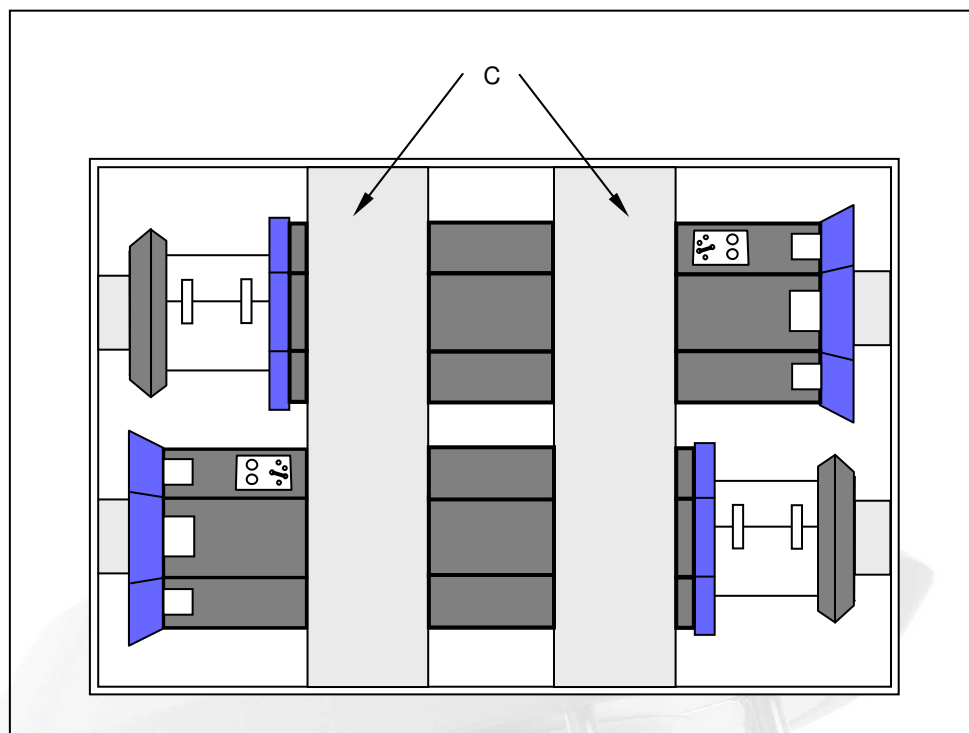

Figure 2. HRS 120 Shipping Carton
2. Remove the two foam packing pieces 'C' in figure 2.